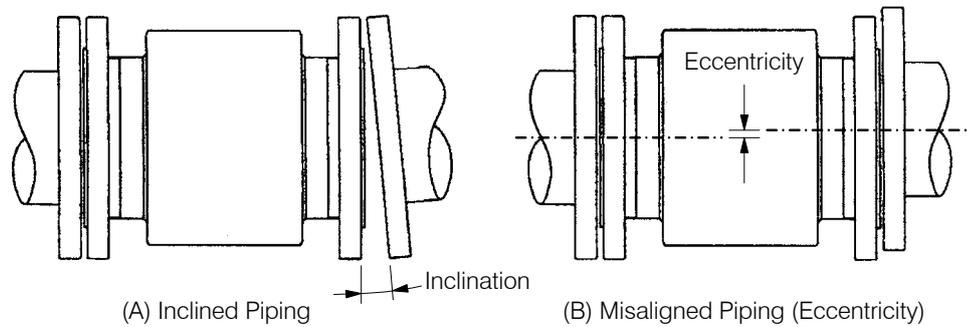

Figure 4.1 Bad Examples of Inclined Piping and Misaligned Piping (Eccentricity)
- (1) For mating pipes to install the detector on both ends, use the pipes of the same material.
- (2) Before installing the detector, make sure that the pipes are not inclined and not misaligned (eccentricity) as shown in Figure 4.1.
- If the detector is forcefully installed in a place where pipes are inclined as shown in Figure 4.1(A), the detector may be damaged or fluid leaks may occur.
- If the detector is installed with pipes misaligned as shown in Figure 4.1(B), the lining or grounding rings may be partially ground down depending on the nature of the fluid and may result in a measurement error caused by uneven current.